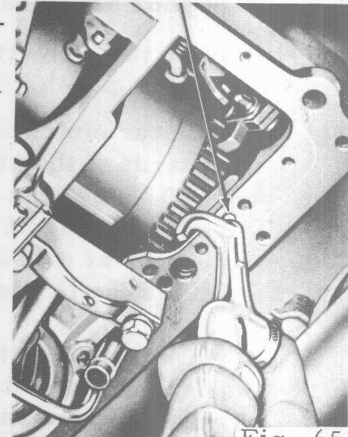

Fig. 65
- ⊗ Direct air pressure to the transmission case front clutch passage (Fig. 65). A dull thud should be heard when the clutch piston is applied. If noise is not heard,